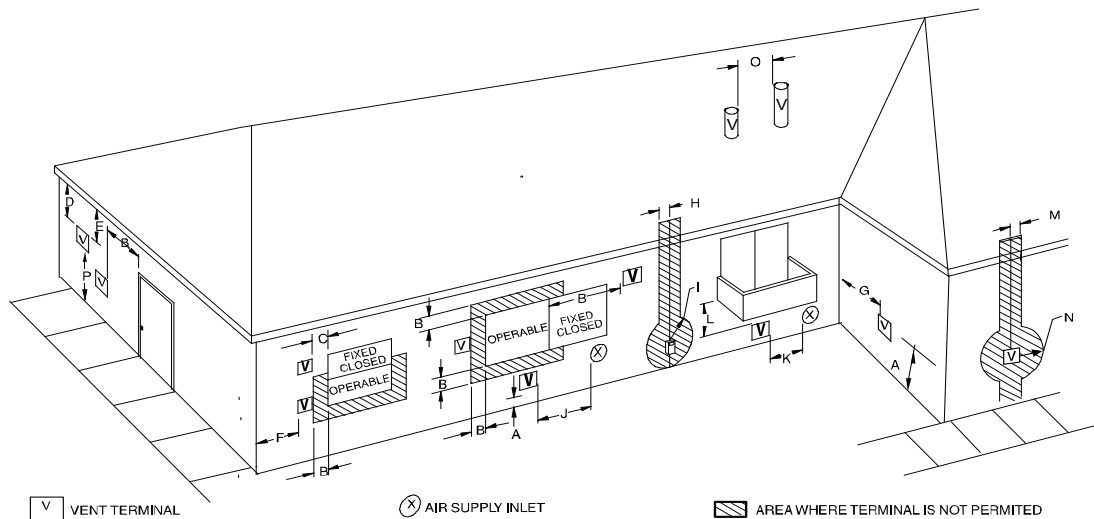
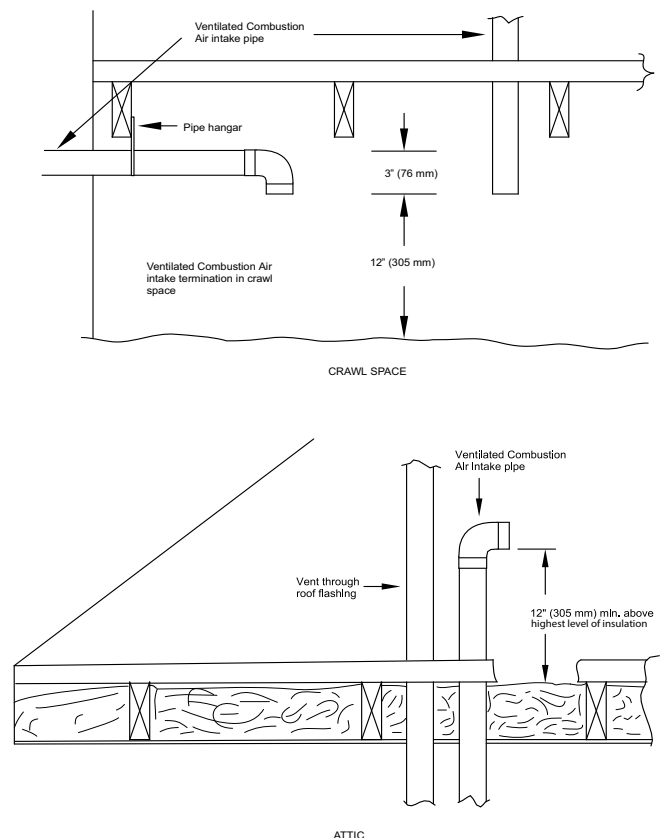

Fig. 44 – Ventilated Combustion Air and Non-Direct Vent Termination Clearance
Fig. 48 – Vent Terminations for Ventilated Combustion Air
In a ventilated combustion air option, the vent terminates and discharges the flue products directly to the outdoors similar to a direct vent system. See Fig. 44 for references to clearances required by National code authorities.
outdoor atmosphere. Air for combustion must be supplied as described in **AIR FOR COMBUSTION AND VENTILATION** on p8. Do not use an abandoned chimney to supply outside air to the furnace. See Fig. 44 for references to vent clearances required by National code authorities.
For vent termination clearance, references to National codes are shown in Fig. 43 for Direct Vent/2-Pipe system and Fig. 44 for Ventilated Combustion Air/Non-direct Vent/1-Pipe system. For exterior termination arrangements, refer to Fig. 40 for Direct Vent/2-Pipe system and Fig. 41 for Ventilated Combustion Air/Non-Direct/1-Pipe system. Contact Local code authorities for other requirements to and/or exemptions from the National codes shown in the figures.
1. Comply with all clearance requirements stated in Fig. 43 or Fig. 44 per application.
The vent pipe for a Ventilated Combustion Air System must terminate outdoors. See Fig. 44 for references to vent clearances required by National code authorities. Allowable vent terminations are shown in Fig. 41. The combustion air pipe terminates in a well-ventilated attic or crawl space. Follow the clearances as shown in Fig. 48.
The vent pipe for a Non Direct Vent (1-pipe) system must terminate outdoors. See Fig. 44 for references to vent clearances required by National Code authorities. Allowable vent terminations are shown in Fig. 41.